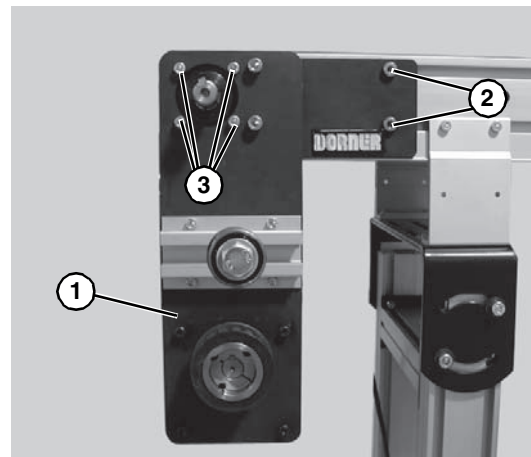

Figure 5
3. Attach bottom mount drive assembly (**Figure 5, item 1**) with two (2) M8 screws (**Figure 5, item 2**) and four (4) M6 screws (**Figure 5, item 3**). Tighten M6 screws to 146 in-lbs (16.5 N-m) and M8 screws to 288 in-lbs (32.5 N-m).